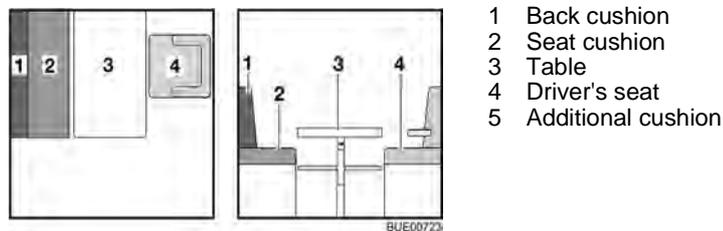

Fig. 106 Prior to conversion
- Turn the driver's seat (Fig. 106,4) and push it all the way forward.
- Convert the table (Fig. 106,3) to a bed foundation (see section 6.10).
- Lay the back cushion (Fig. 106,1) aside.